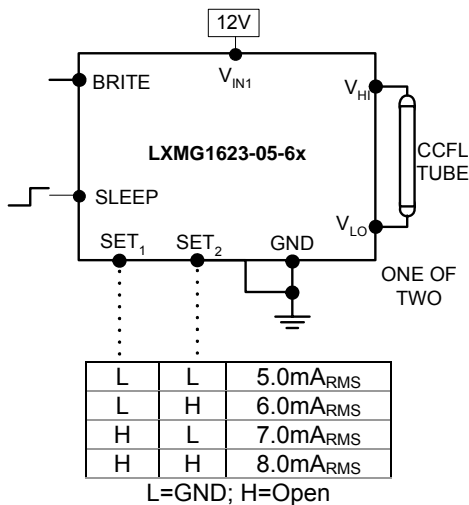

Figure 2 – Maximum Output Current (SET₁ and SET₂ Inputs)
- Use the SET₁ and SET₂ (see Figure 2) inputs to select the desired maximum output current. Using these two pins in combination allows the inverter to match a wide variety of panels from different manufactures. Generally the best lamp lifetime correlates with driving the CCFL at the manufactures nominal current setting. However the SET₁ and SET₂ inputs allow the user the flexibility to adjust the current to the maximum allowable output current to increase panel brightness at the expense of some reduced lamp life.